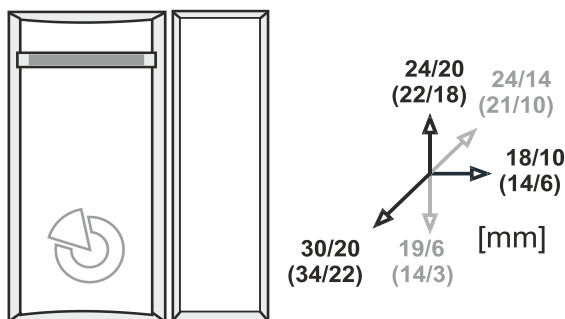

Figure 2: Distances for activation/deactivation of a detector installed on non-magnetic (magnetic) surface
1. **Open the detector cover** by pushing the tab (3).
3. Screw the permanent magnet to the moving part of the door (window). The distance between the electronic part and the magnet should be as small as possible. The activation/deactivation distances between the magnet and the detector are shown in the following Figure 2. For other types of magnets or opposite polarity, the values may vary.